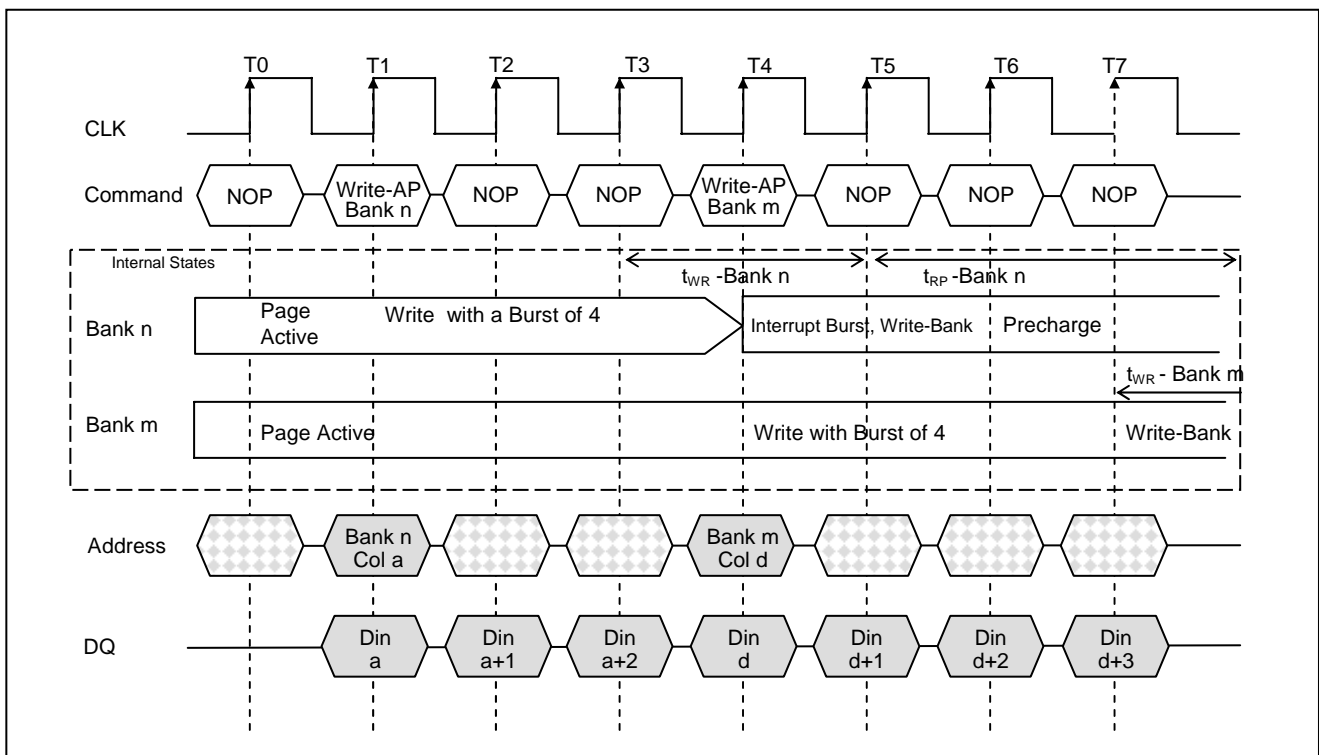

Figure 28. Write with Auto Precharge Interrupted by a Write with Auto Precharge
4. Interrupted by a Write (with or without auto Precharge): A Write to bank m will interrupt a Write on bank n when registered. The Precharge to bank n will begin after t_{WR} is met ,where t_{WR} begins when the Write to bank m is registered. The latest valid data Write to bank n will be data registered one clock prior to a Write to bank m.(Figure 28.)